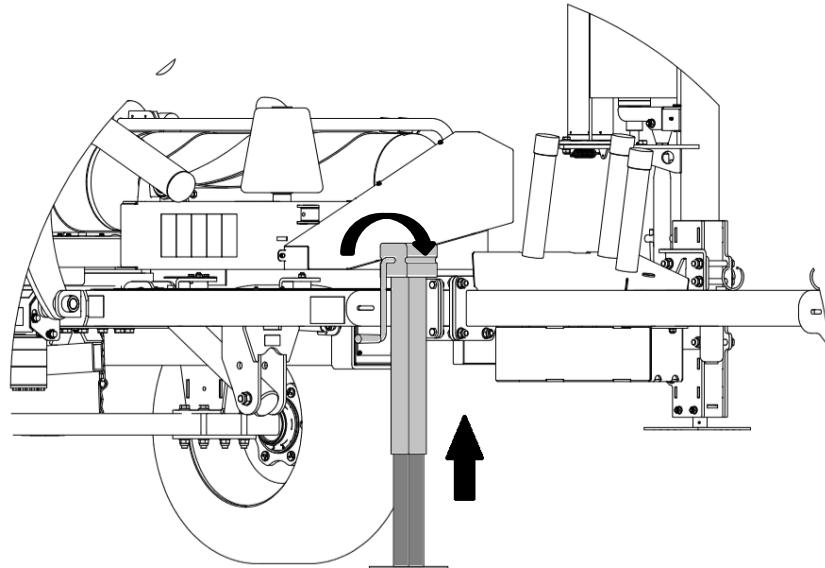

Figure 22 Support foot
- on the reverse gear, slowly reverse towards the bale wrapper's hitch (1) ensuring nobody is standing between the machine and the tractor or in the immediate surrounding of the machine,
- when reversing, move the tractor's hitch (4) as close as possible to the bale wrapper's hitch,
- connect the machine's hitch to the tractor's hitch with a pin (2), secure with a locking pin,
- lift the support foot (Figure 22),
- connect hydraulic conduits of the machine (3) to tractor hydraulic sockets,
After hitching the machine with the tractor inst. 6.2, lift the support foot, Figure 22.